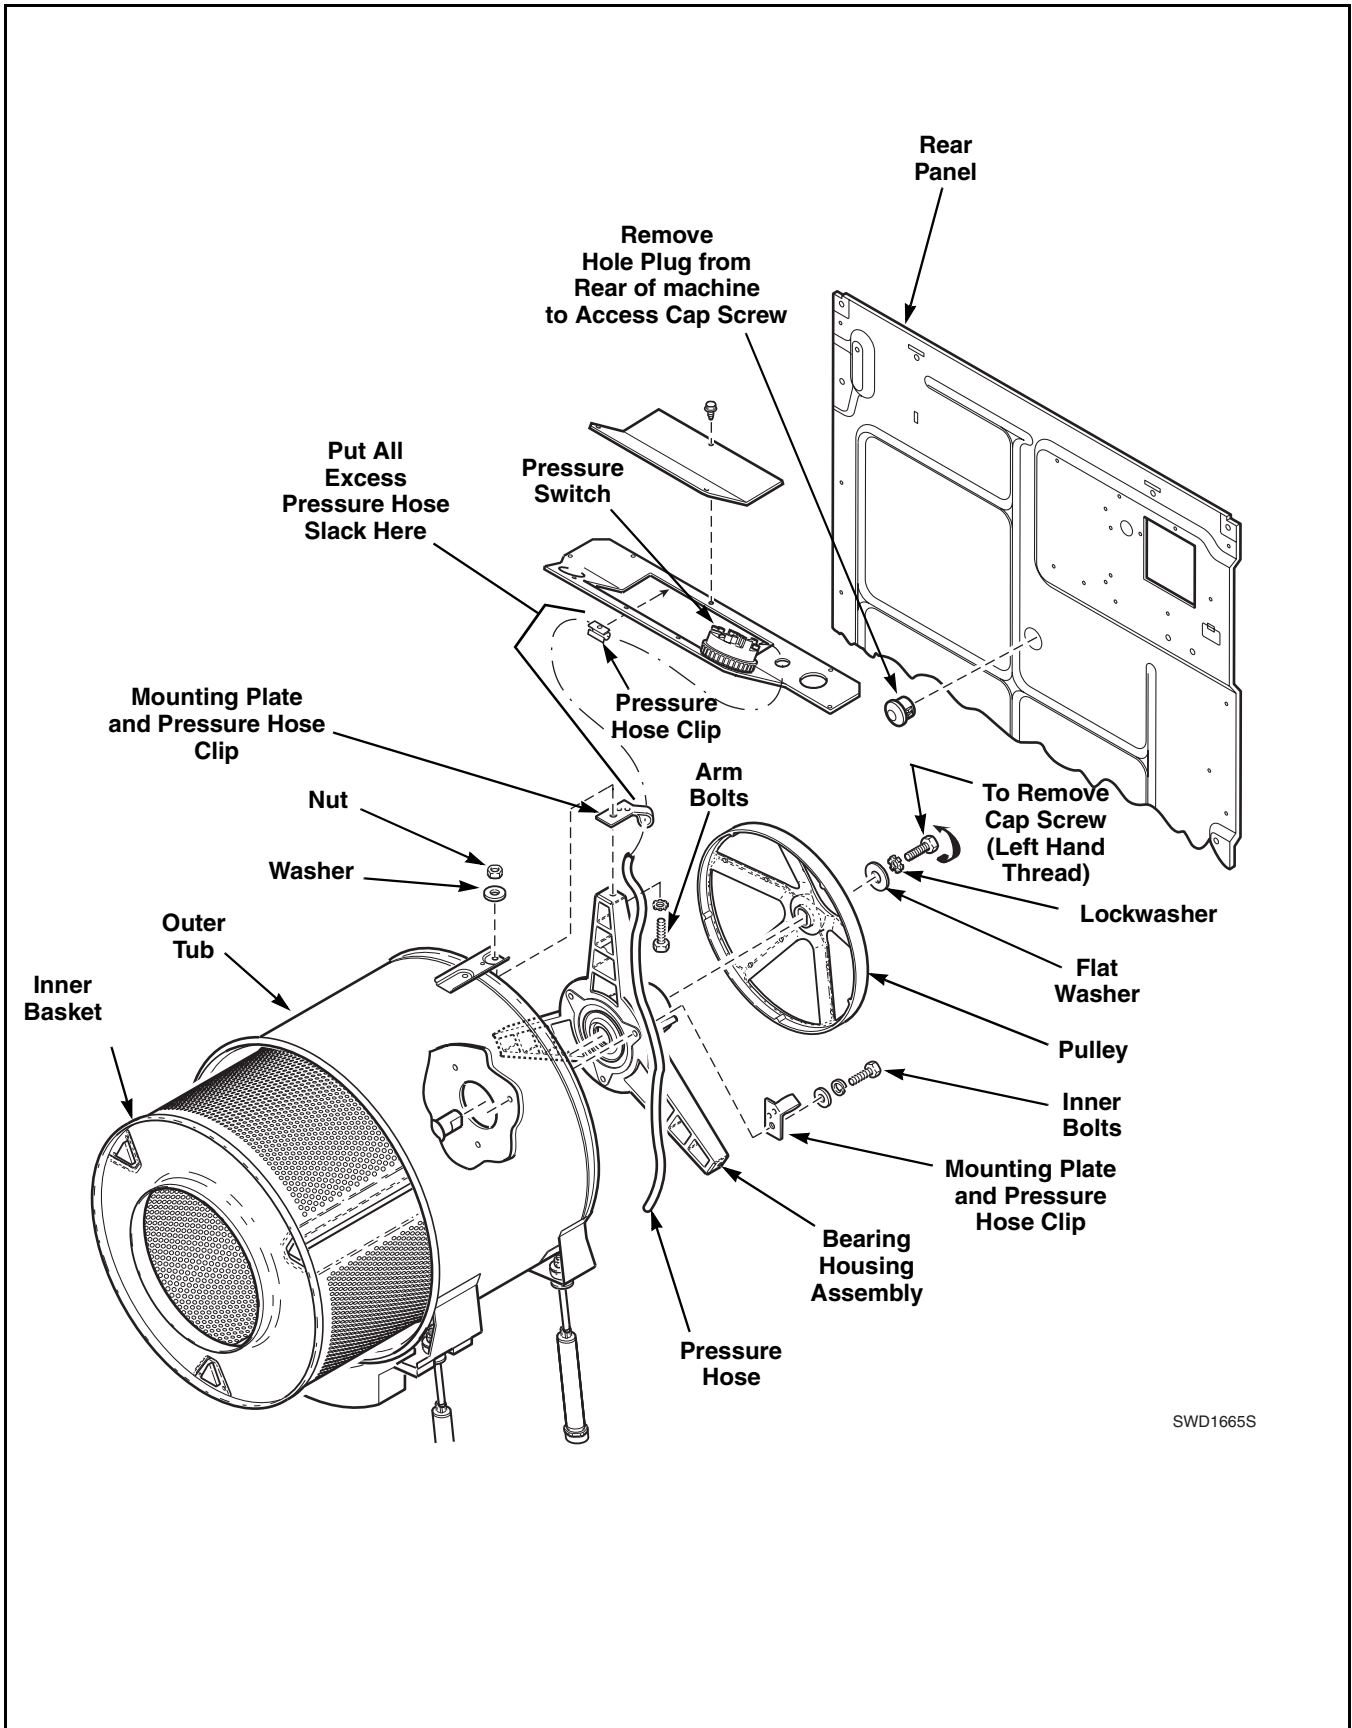

Figure 24
- k. Remove hole plug from rear panel to access pulley cap screw. Refer to *Figure 24*.
- l. Remove cap screw (left hand thread) lockwasher and flat washer holding pulley to inner basket shaft. Refer to *Figure 24*.
- s. Remove cap screw (left hand thread), lockwasher and flat washer holding pulley to inner basket shaft. Refer to *Figure 24*.
NOTE: Cap screw can be accessed through hole in rear panel by removing hole plug. Refer to *Figure 24*.
- t. Remove cap screw (left hand thread), lockwasher and flat washer holding pulley to inner basket shaft. Refer to *Figure 24*.
IMPORTANT: Prior to disassembly, note the position of the pressure hose, hose clips and mounting plate so parts can be reinstalled in the same position. Refer to *Figure 24*.
- y. While supporting bearing housing, remove three inner screws holding bearing housing to rear of outer tub. Refer to *Figure 24*.
NOTE: When installing the bearing housing, be sure to route the pressure hose under the right arm and attach hose and pressure hose clip to mounting plate. Refer to *Figure 24*. Then route pressure hose up to the hose mounting plate on the top arm. Refer to *Figure 24*. Make sure there is no slack between these two points. All excess pressure hose slack must be collected between the top hose mounting plate on the bearing housing arm and the pressure hose clip. Refer to *Figure 24*.